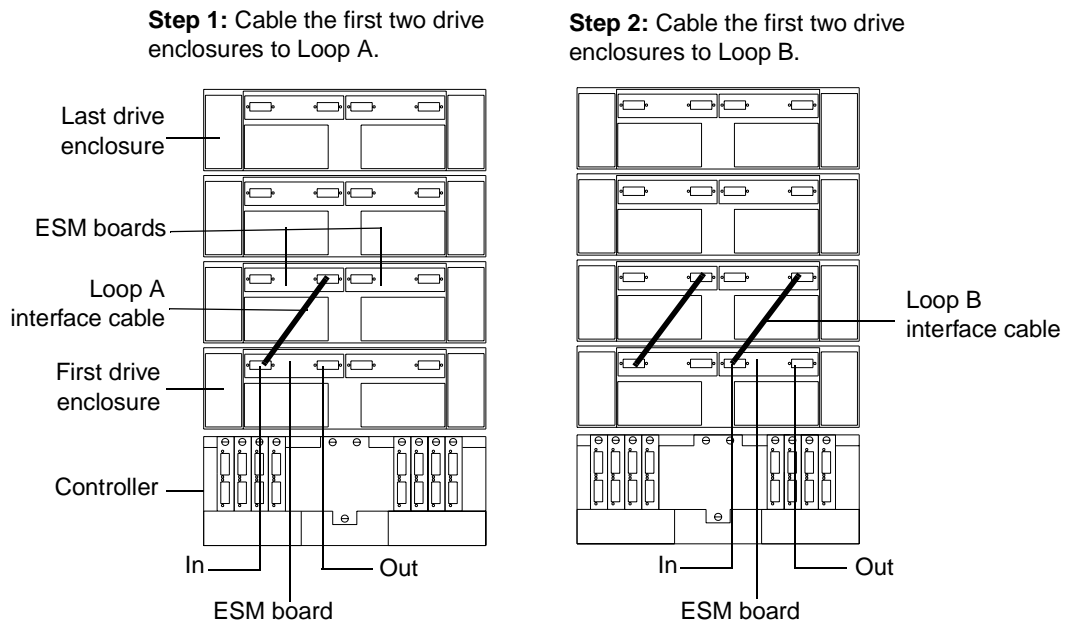

Figure 19. Example of connecting two drive enclosures into a redundant drive loop
- 1 Connect the first two drive enclosures to drive Loop A, as shown in Figure 19.
- 2 Connect the same first two drive enclosures to drive Loop B, as shown in Figure 19.